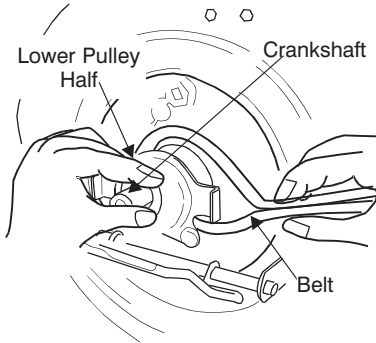

Figure 25
- Lift off the lower pulley assembly and remove the old belt from around the crankshaft. See Figure 25.
15. Place the new belt over the transmission pulley. Start the belt in pulley groove and rotate pulley until belt is seated in transmission pulley. See Figure 25.